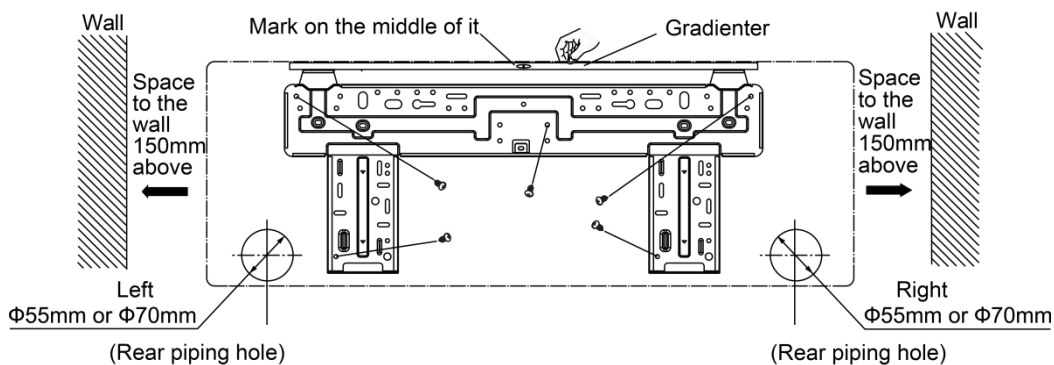

Fig 4.2
- (1) Use a level to hang the rear panel. Since the drainage pipe is on the left side, it is necessary to adjust the rear panel to make its left side a little bit lower.
- (2) Attach the rear panel on the wall with bolts.
- (3) After installing the rear panel, check to see that it is mounted securely. The panel should support 60kg/130 lbs., and the weight shared by every bolt should be evenly distributed.
- (4) The diameter showed in Fig. 4.2 is 65mm (2-1/2 in.).
- (1) Make the piping hole (Φ 65mm/2-1/2 in.) in the wall at a slight downward slant to the outdoor side. The center of the hole should be determined referring to Fig. 4.2.
- (2) Insert the piping-hole sleeve into the hole to prevent the connected piping and wiring from being damaged when passing through the hole.